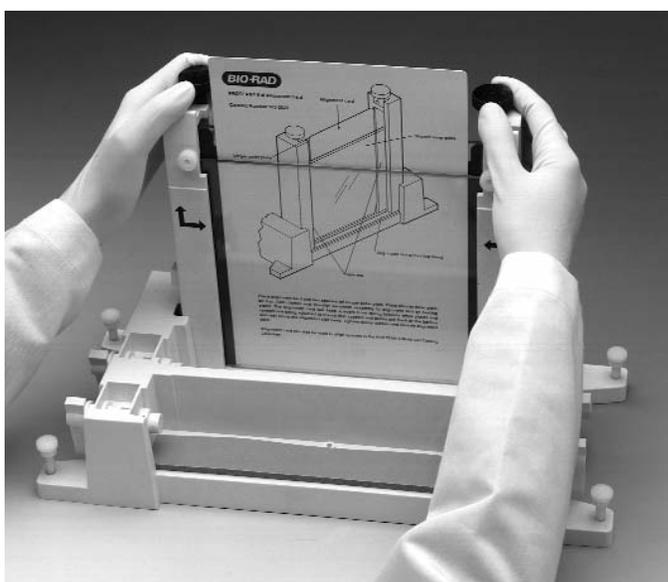

Fig. 7.4. Aligning spacers in the sandwich assembly.
5. Place the sandwich assembly in the alignment slot (the slot without cams) of the casting stand with the short glass plate forward (Figure 7.4). Loosen the sandwich clamps and insert an alignment card to keep the spacers parallel to the clamps.
6. Align the plates and spacers by simultaneously pushing inward on both clamps at the locating arrows while pushing down on the spacers with your thumbs. Tighten both clamps just enough to hold the sandwich in place. Pushing inward on both clamps at the locating arrows will insure that the spacers and glass plates are flush against the sides of the clamps (Figure 7.4).